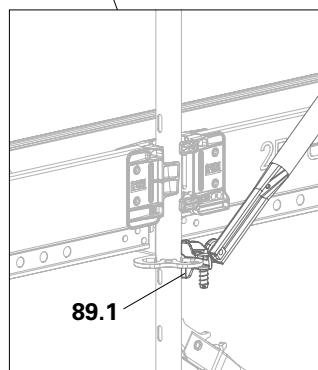
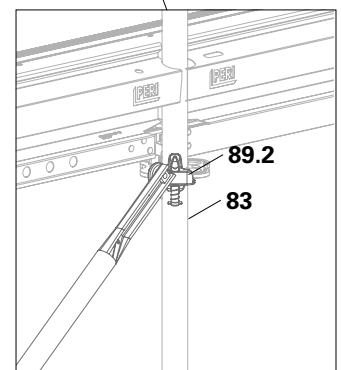

Fig. C1.05b
Fig. C1.05a
2. Fit one Node Brace UBK (**89**) at the transition to the PERI UP Flex. Fit one side (**89.1**) into the rosette of the Easy Frame (**16**) beneath the last deck level of the Easy scaffolding (Fig. C1.05b). Fit the other side (**89.2**) into the rosette of the Standard UVR-2 200 (**83**) beneath the first deck level of the Flex scaffolding. (Fig. C1.05a)